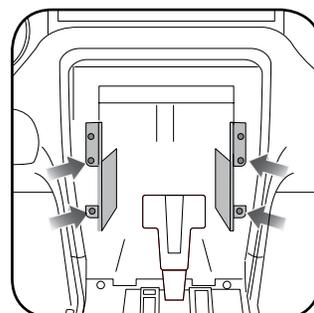

Fig. 1.7
7. Using (4) 7mm screws, reinstall the radio chassis brackets and set the screen brackets aside to be used later. (fig. 1.7)